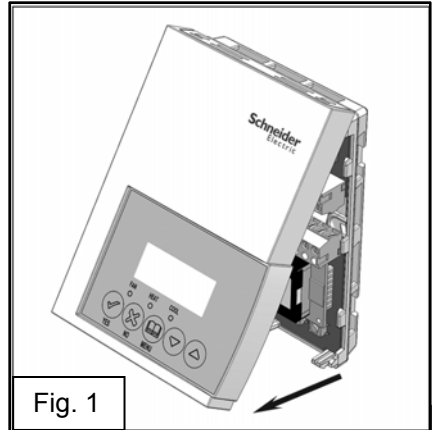

Fig. 1
- Open unit by pulling on the bottom side of Terminal Equipment Controller (fig. 1)